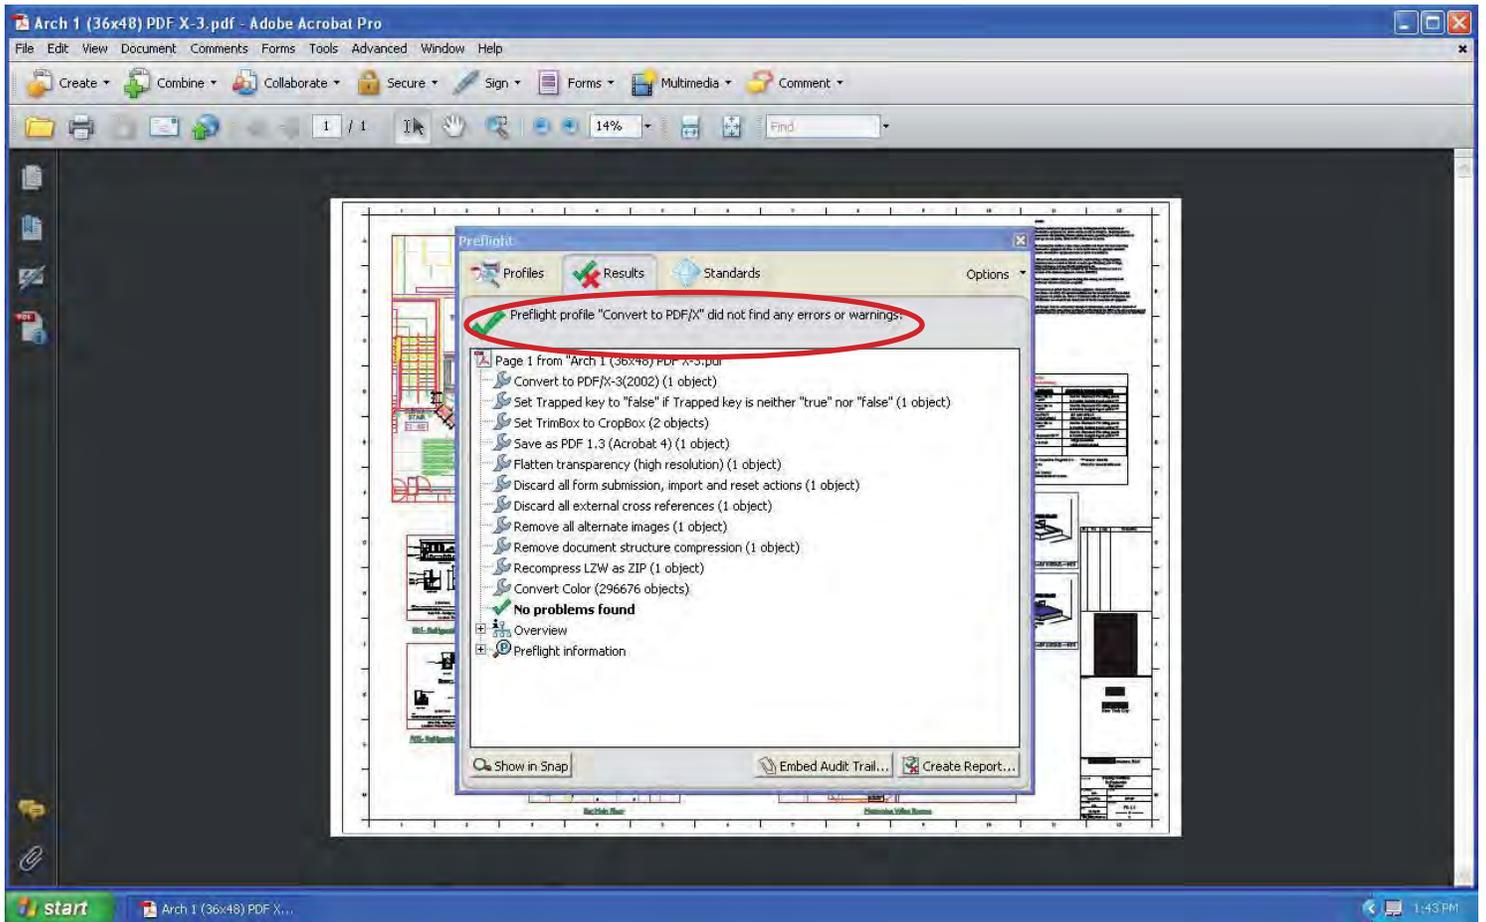

Fig. 6
6. Select the Apply Corrections checkbox to have Acrobat software automatically fix errors during the conversion. (You can view a list of the fixups that will be applied by clicking the question mark icon.) (Fig 6.)